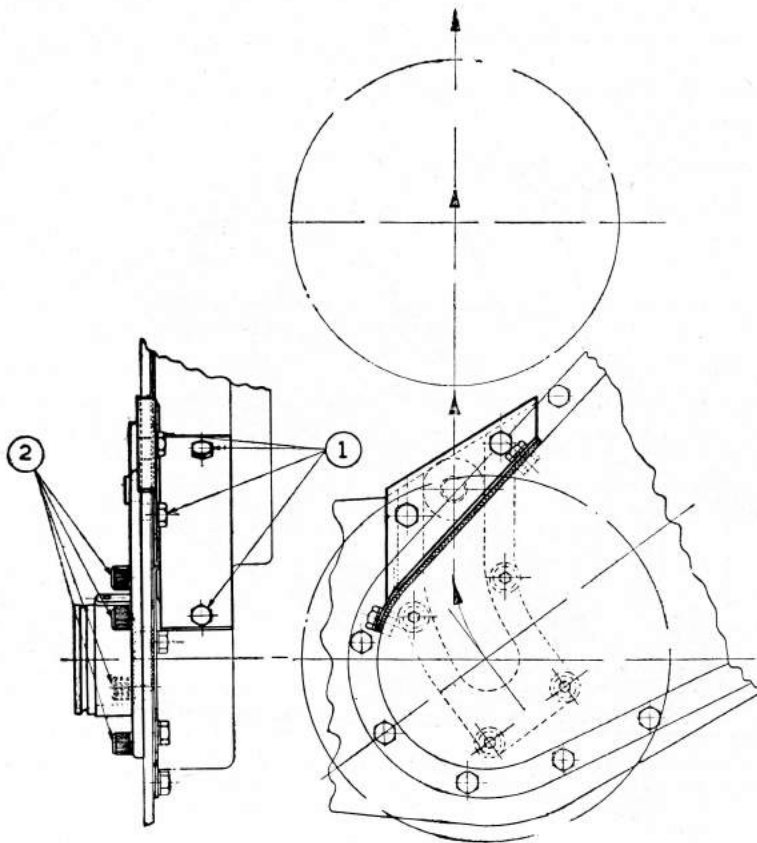

Fig. 12
The cutting cylinder can be removed without dismantling the remainder of the machine in the following manner (fig. 12). Remove the small cover and gasket from the main gear cover by removing the screws (1). Take out the four screws (2) securing the cylinder housings to the side frames. The cylinder can now be lifted by a steady upward pull applied simultaneously to each end of the cylinder.